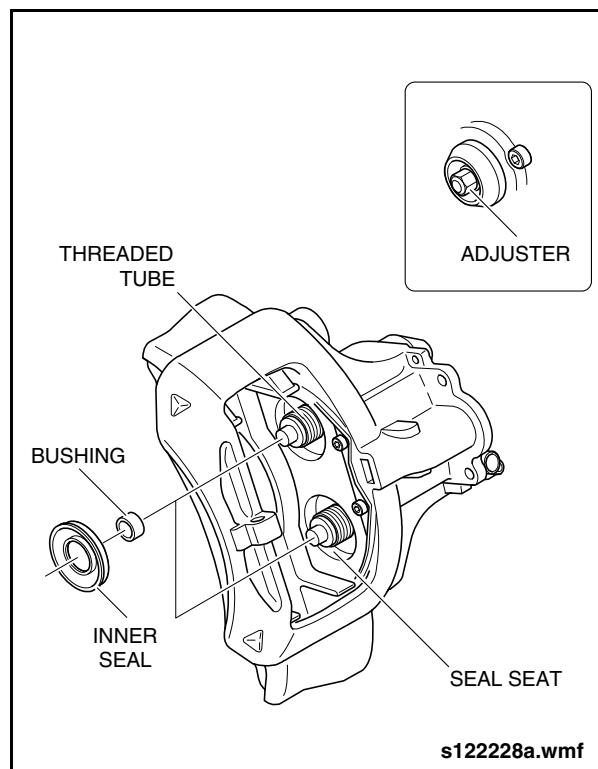

Fig. 2-134: Removing Inner Seal
7. Carefully pry the inner seal out of the seal seat. See "Fig. 2-134: Removing Inner Seal" on page 116.